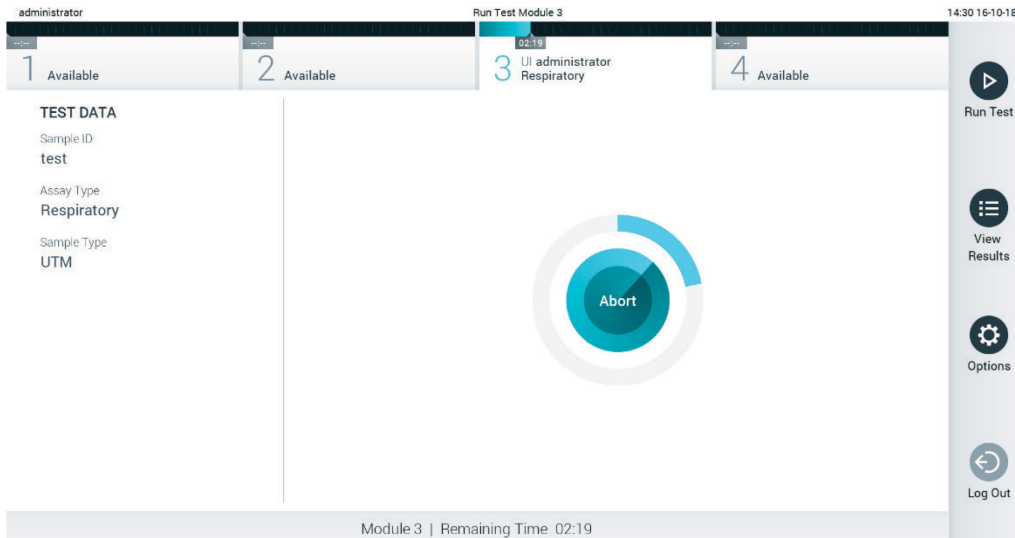

Figure 28. Test execution and remaining run time display.
9. While the test is running, the remaining run time is displayed on the touchscreen (Figure 28, next page).